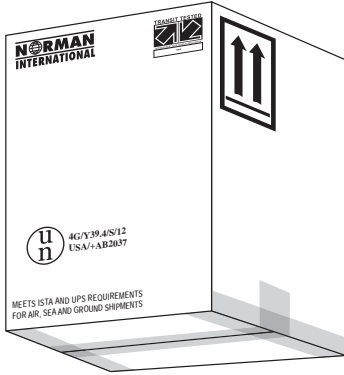

Figure 1
1. Fold bottom of fiberboard box and seal center seam with 2" wide clear plastic tape (3M Type 371) extending 3" on each side. Use "H" pattern for taping. (See Figure 1)